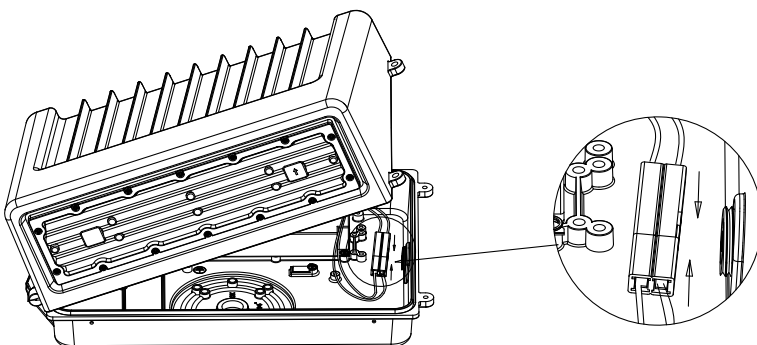

Fig. 1-5A
5. Connect the quick connect terminal, then screw the fixture with bottom plate. (Fig. 1-5A & 1-5B)